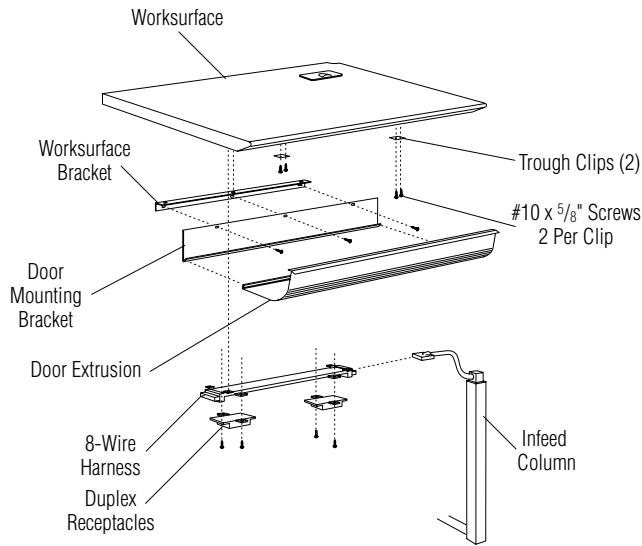

Figure 6
11. Attach the power entry infeed column to the inside corner of the study unit (below the worksurface) on the end closest to the power source (Figure 6). When a row of carrels feed from the same power source, the first carrel is the only one that requires the power entry column.